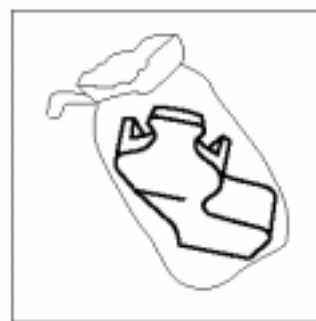

Figure 25: Removing the new container from the bag
- 8** Remove the new Developer Ink Waste Container from the box and bag, as illustrated in Figure 25.